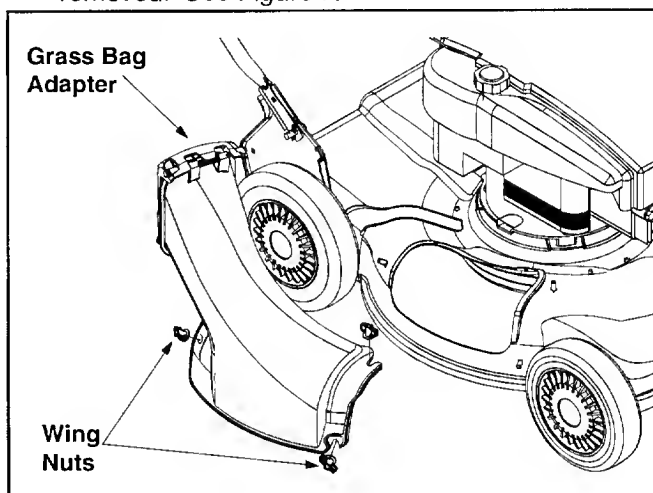

Figure 7
- Replace with grass bag adapter, while making sure the inner lip of attachment goes under the edge of the deck. Secure with wing nuts previously removed. See Figure 7.